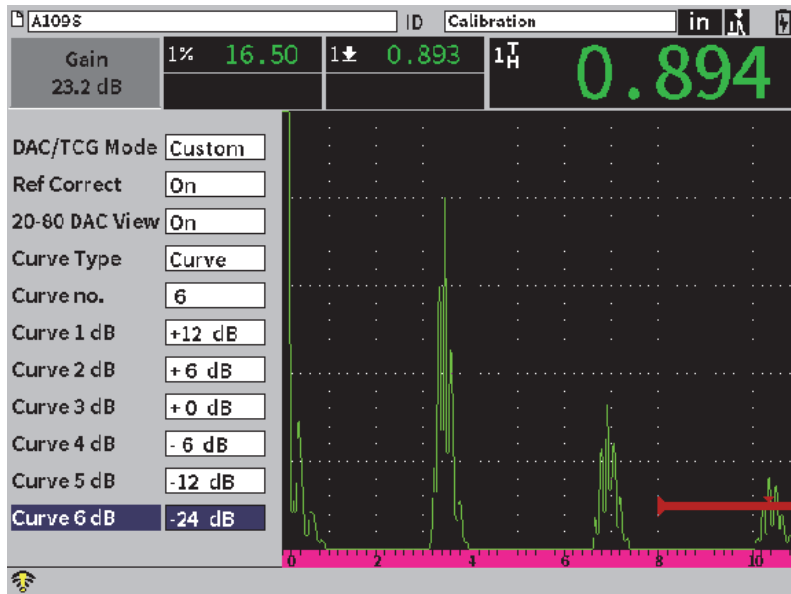

Figure 11-17 Custom DAC setup
4. Select the **Curve no.** to be used in addition to the main curve (see Figure 11-17 on page 171).